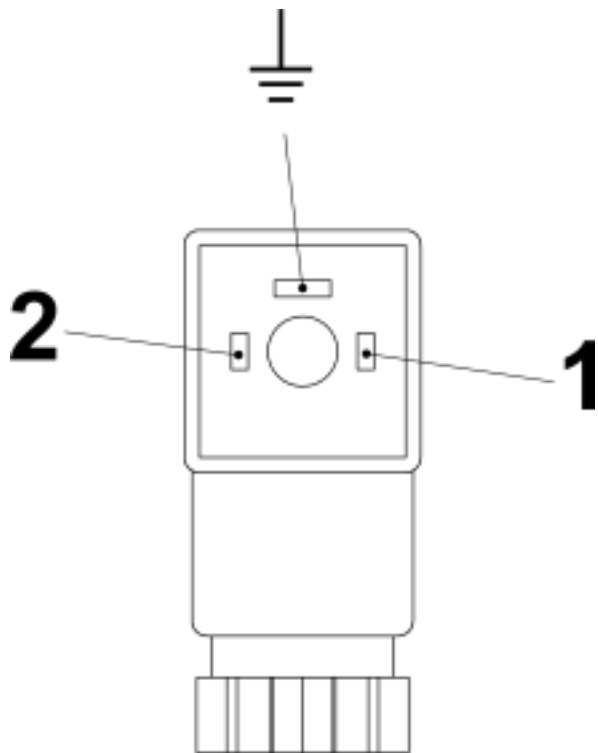
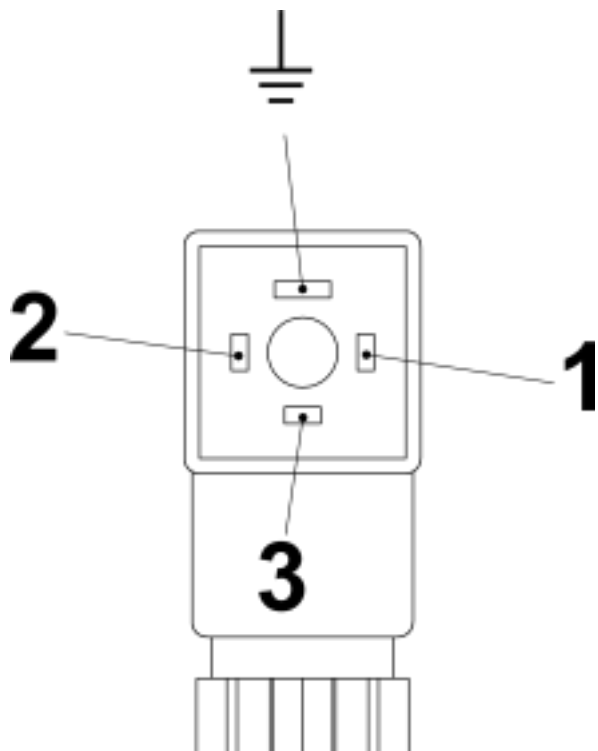

Fig. 25: Pin assignment, plug socket, Normally Open Contact (Form 15x50)
Fig. 26: Pin assignment, plug socket, Change-Over-Contact (Form 15x50)
- 6.** ➤ Make the connections as shown in the connecting diagram (*Fig. 25 Fig. 26*)